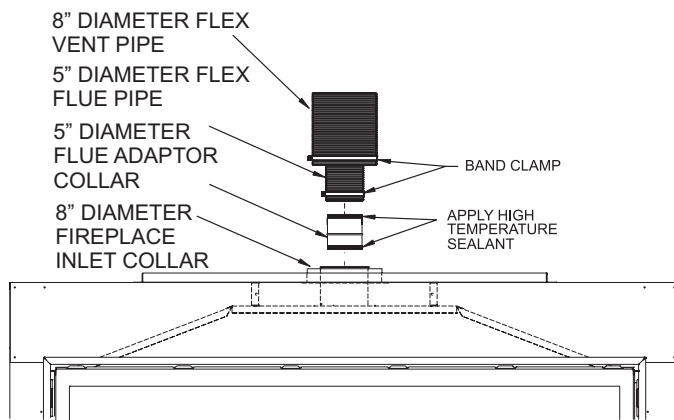

Figure 59
10. Apply sealant to the outside of the flue pipe adapter and connect to the flex flue pipe. Then insert the adapter into the fireplace flue. Secure flue adapter to the fireplace flue with a minimum of two screws provided. **See Figure 59.**